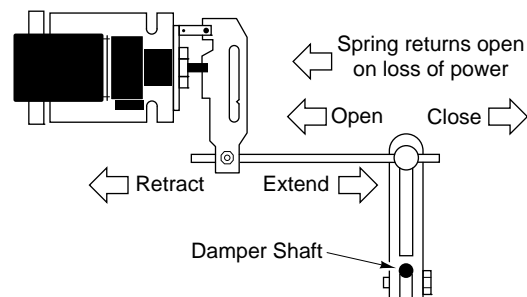
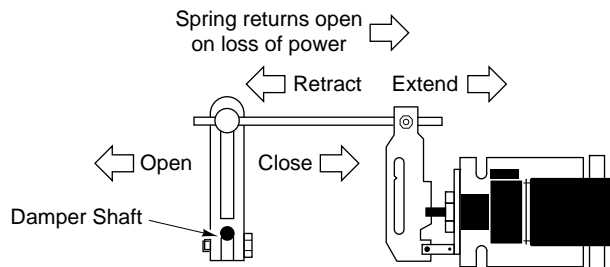

Figure-14 Dampers Open When Actuator Retracts (Spring>Returns Open on Power Loss).
Figure-15 Dampers Open When Actuator Extends (Spring>Returns Closed on Power Loss).
- a. Determine, from the system requirements, if the damper should spring-return to the open position (Figure-14) or closed position (Figure-15) whenever power is lost to the actuator. An actuator is normally linked so as to retract (spring-return) to the damper's fully open position (heat position).